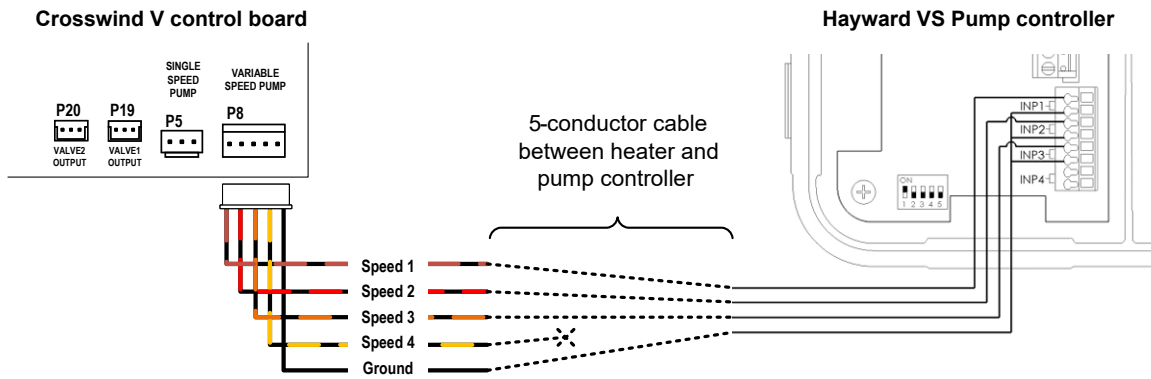
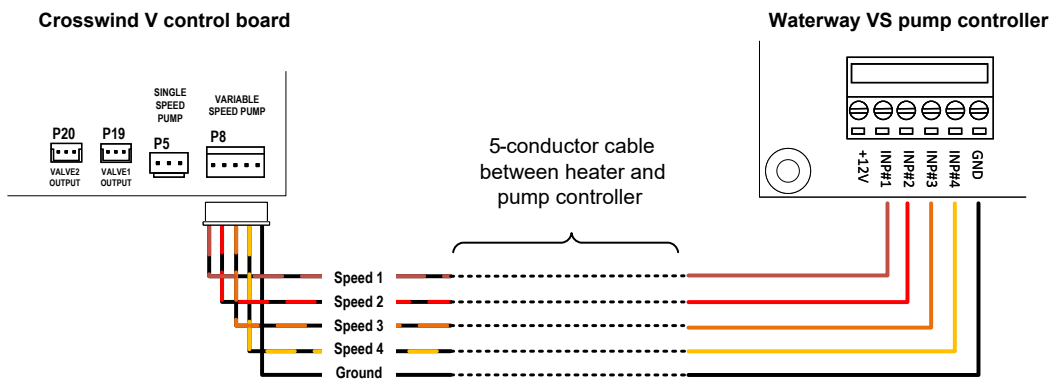

Figure 143. Hayward THP VS Pump Family
Figure 147. Waterway Power Defender VS Pumps with Discrete Switch Inputs
3. Connect the other end of the 5-conductor cable to the digital input terminals on the variable-speed pump controller or the digital to RS-485 pump control interface. **Figure 143** through **Figure 147**, provide examples of connections for certain variable-speed pump brands and models. Please refer to the installation and configuration manual of your variable-speed pump for more details on connecting and configuring the digital input speed selector.